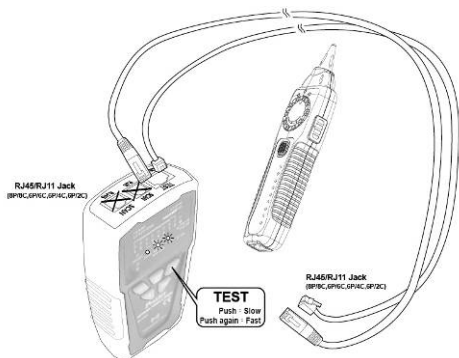

Figure 5 Validating Cable Maps
4. You can use MT-7029N to validate the cable map on RJ11 and RJ45 connectors. The cable map function finds the most common wiring status on twisted pair cabling: good, shorts, opens, and crossed pairs as shown in Figure 5.